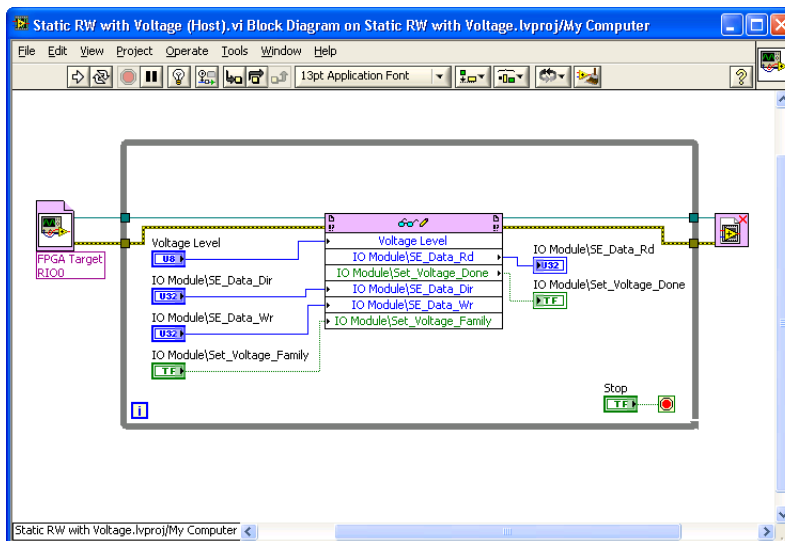

Figure 15. Data RW (Host).vi Block Diagram
9. Add a While Loop to the block diagram, as shown in Figure 15.
- Right-click the stop condition of the While Loop and add a control. Label this control `Stop`. Your block diagram should now resemble the block diagram in Figure 15.